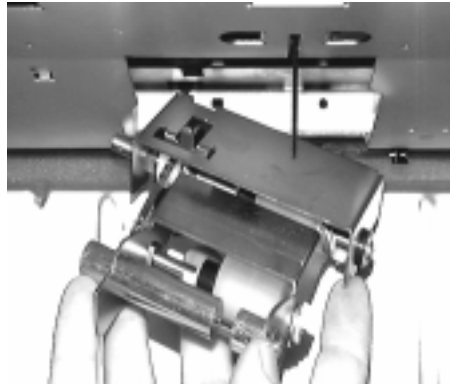

Figure D-11 Installing Upper Roller Assembly
Step 13 From the front of the HCI, gently guide the upper roller assembly into place, as shown in Figure D-11.